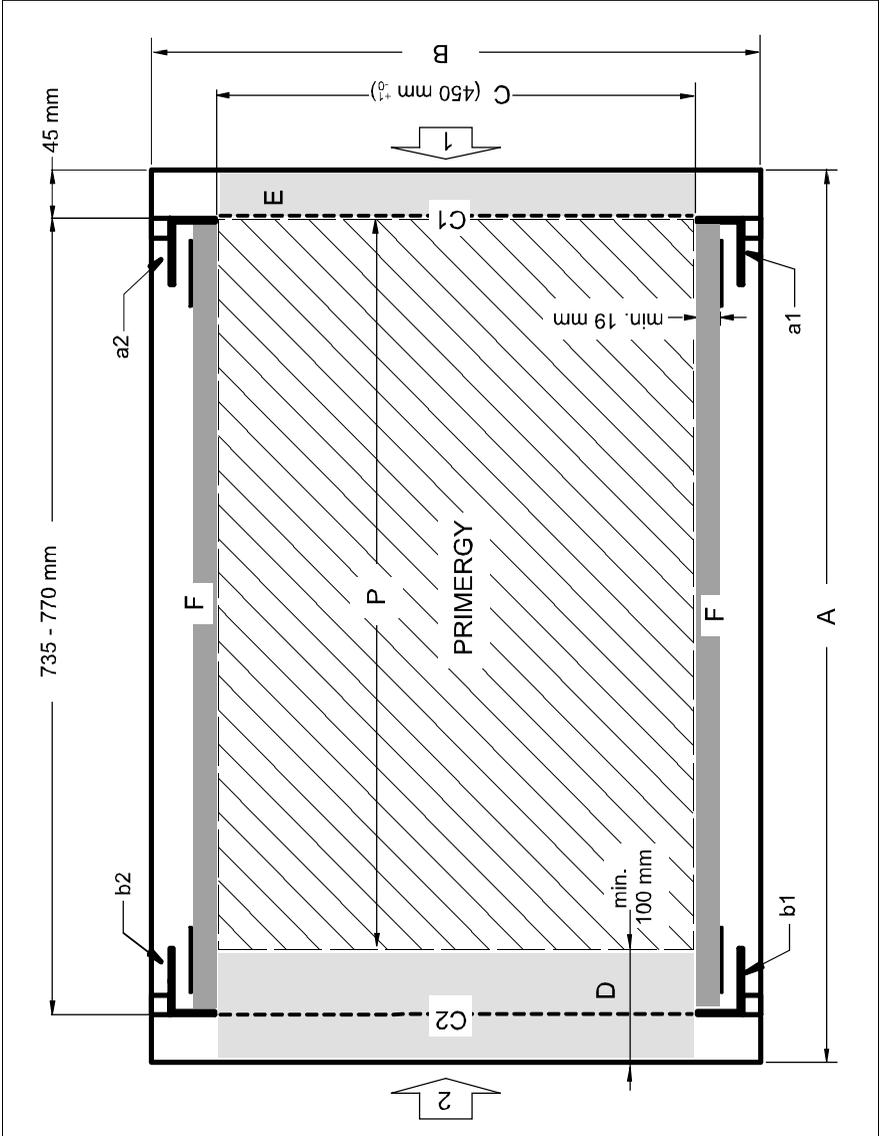

Figure 6: Mechanical conditions
- Installation dimensions (see the dimensions shown in figure 6 on page 31).